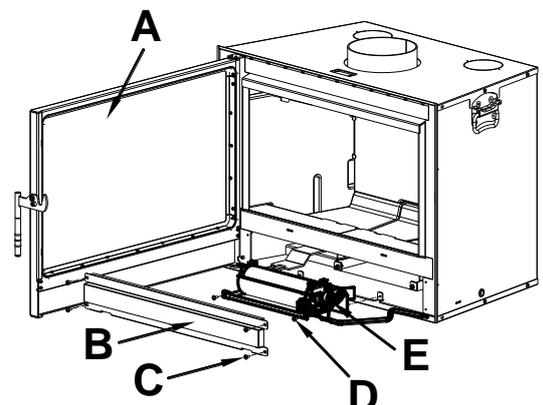
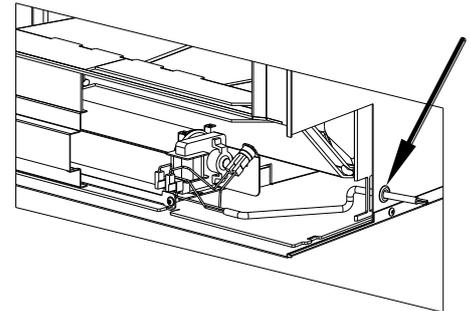

Figure 2 - VF kit assembly
Figure 3 - VF kit assembly detail
**ASSEMBLY KIT:** for the assembly (fig.2) after opening the door **A** remove the protective panel **B** by unscrewing the screws **C**; then insert the kit and secure it with the screws **D** on the appropriate supports – be careful to run the cable through the fairlead hole on the side of the insert (fig.3); reassemble all parts following the reverse sequence.